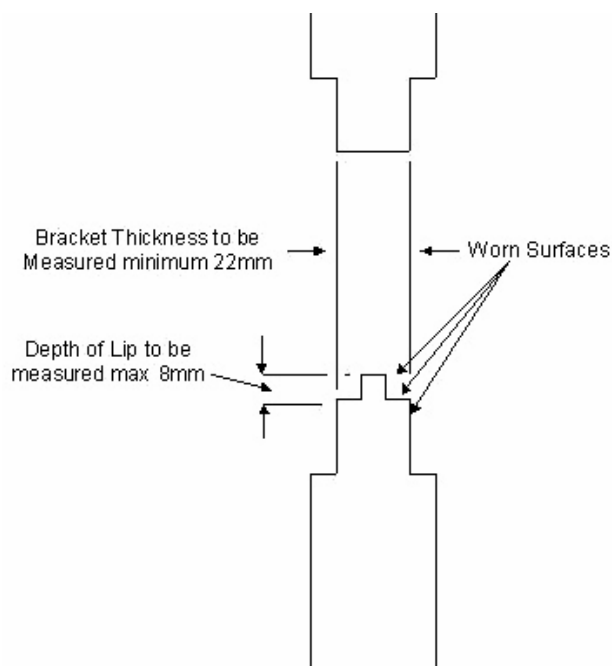

Figure 7: Measurement on Secondary Traction Rod Bracket
- E3. Measure the thickness of the secondary traction rod bracket around the mounting hole. Minimum thickness 22mm (see Figure 7).
- E4. If a lip has been worn (see Figure 7) measure its depth at the lower edge. Maximum allowable 8mm.